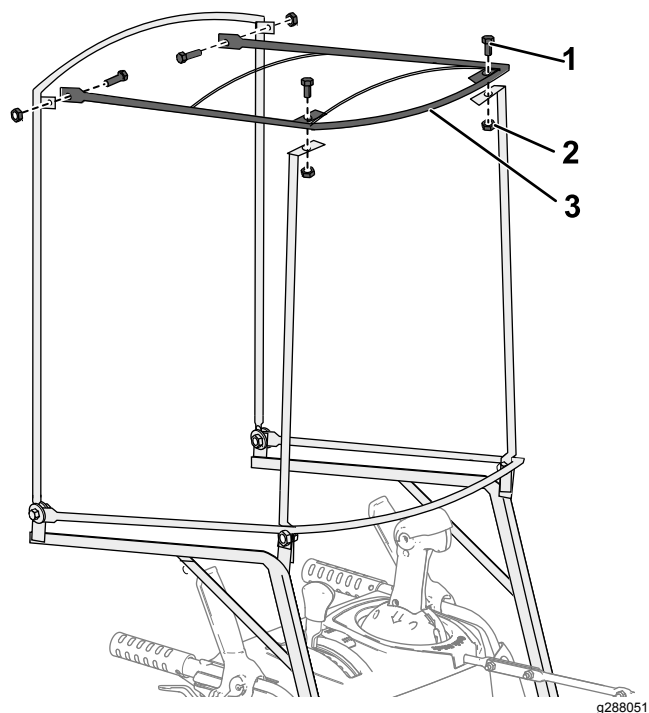

Figure 4
5. Install the top frame onto the front posts and rear frame as shown in Figure 4.